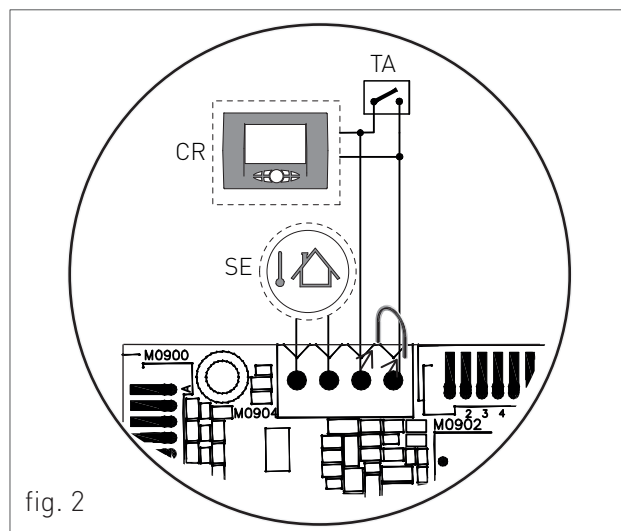

fig. 2
- For the external temperature Probe connect the two non-polarized conductors to the contacts of the terminal M0904 (see 'SE' fig. 2).
- For the environment Thermostat or Remote control, first remove the bridge on the contacts of the terminal M0904 and then connect the two non-polarized conductors of the environment Thermostat or Remote control (see 'TA' or 'CR' fig. 2).